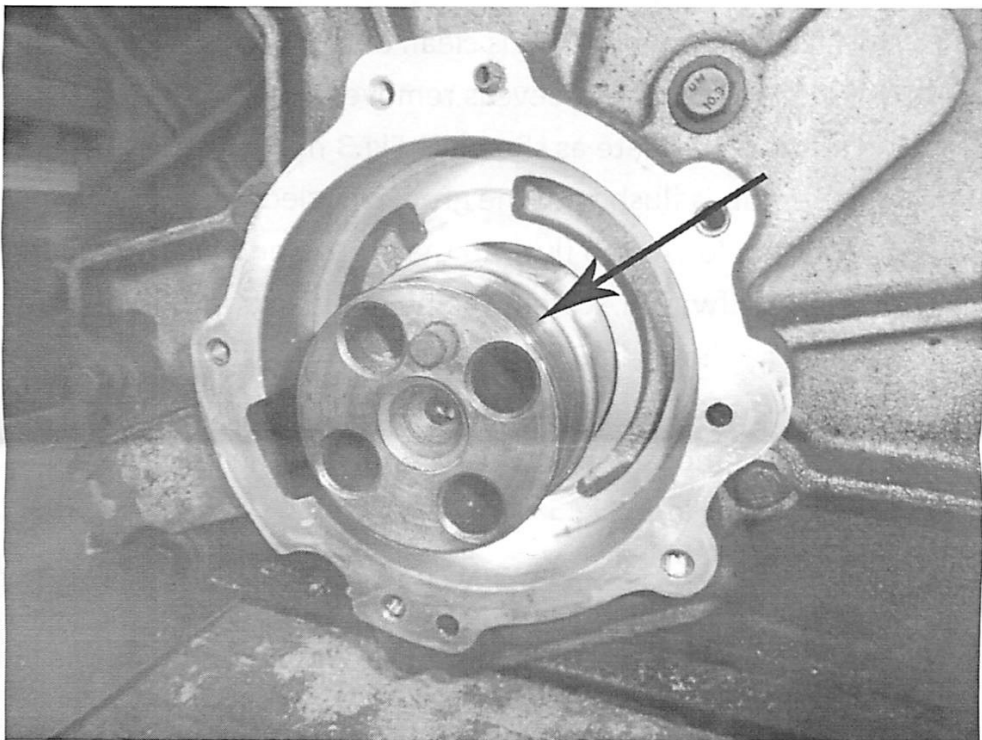

Figure: 2
- 2) Note that the seal sleeve is removed. **Fig.2**